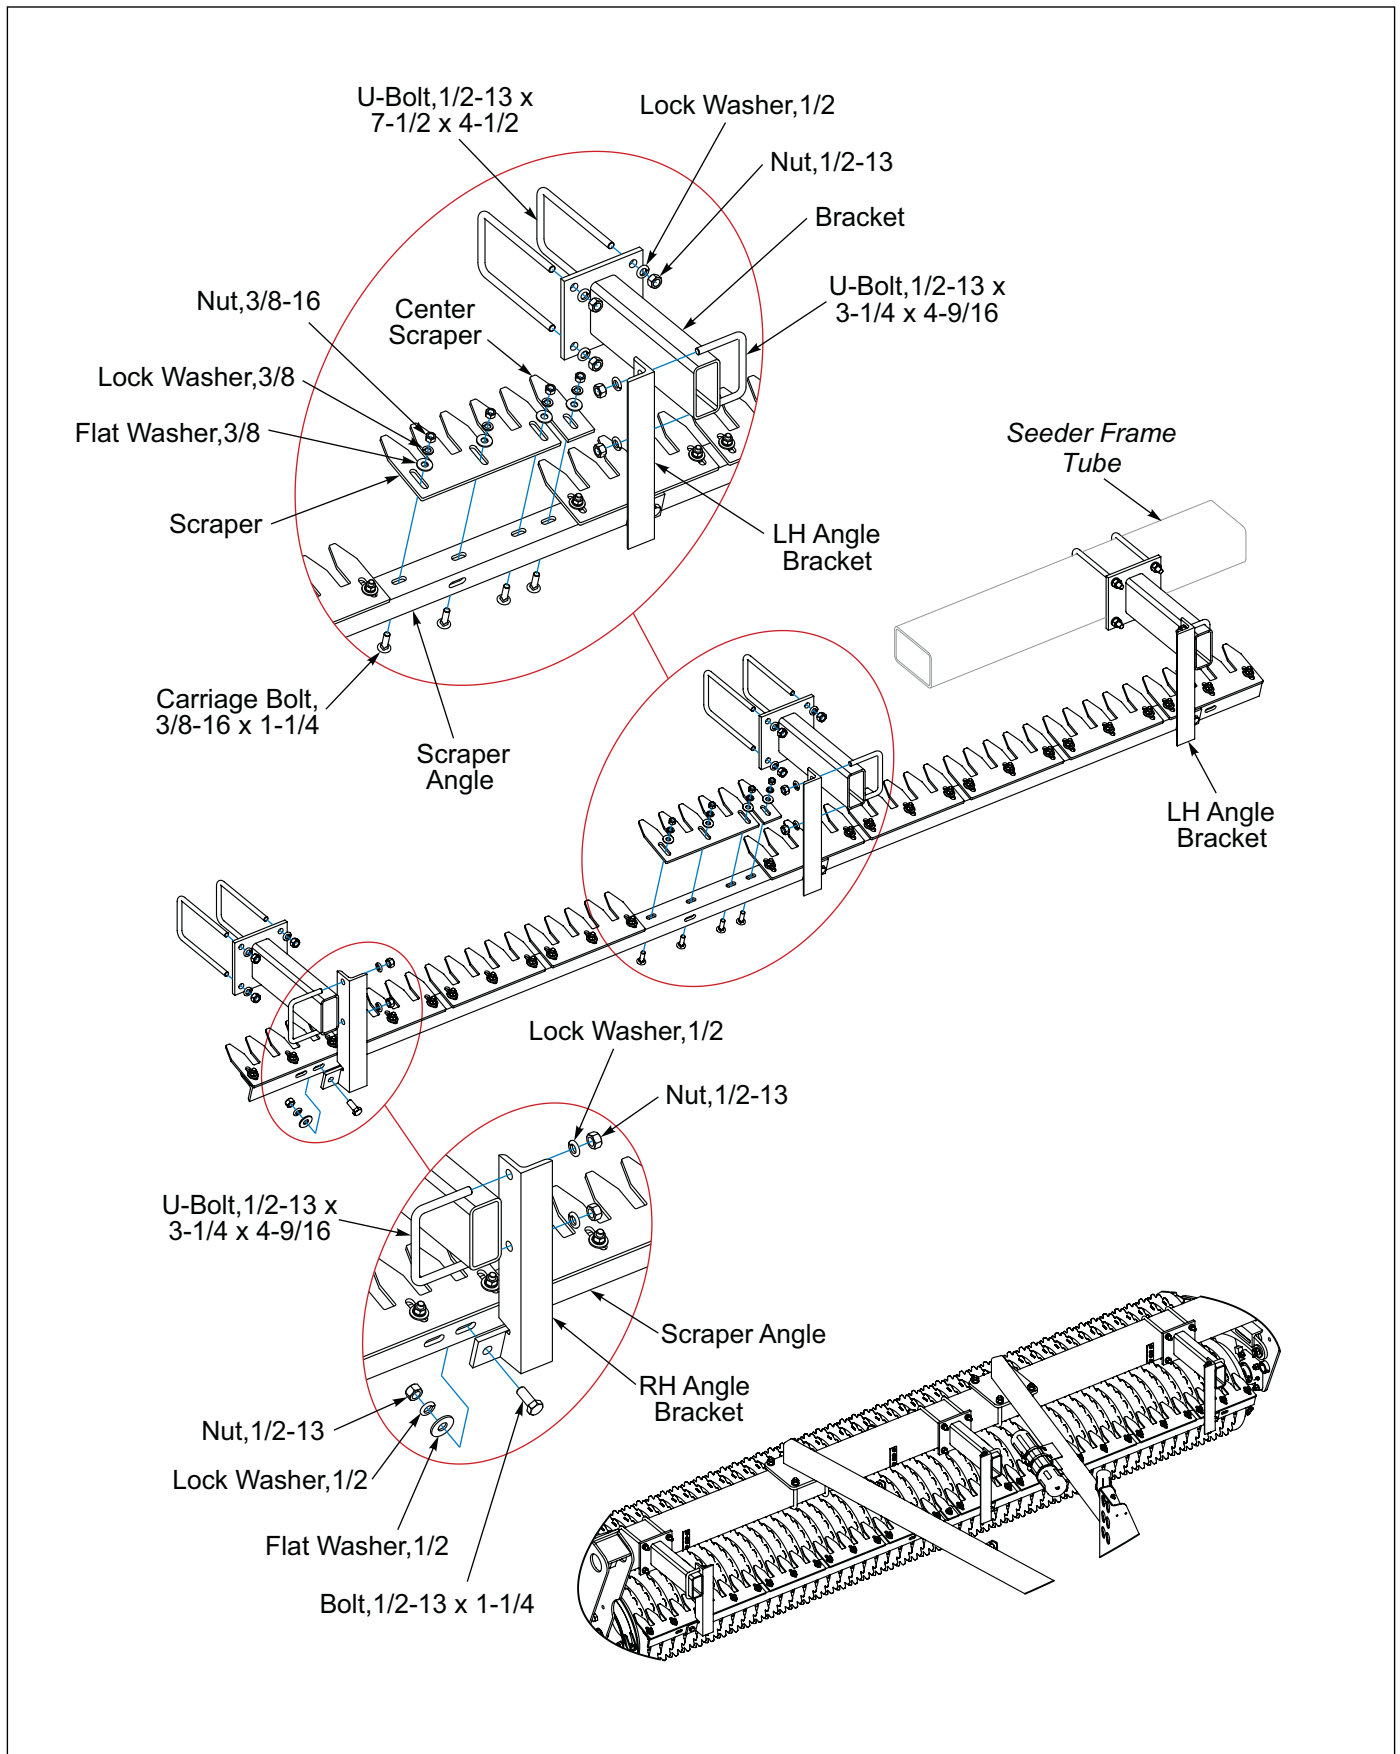

Figure 2-37: Scraper Kit
1. Assemble Brackets to the front of Seeder Frame Tube with 1/2-13 U-Bolts, Lock Washers and Nuts except for the 12FT Drawbar Seeder where you mount the Bracket to the Brace Plate with the Brace Hardware. **Do not** tighten at this time. See Figure 2-37.